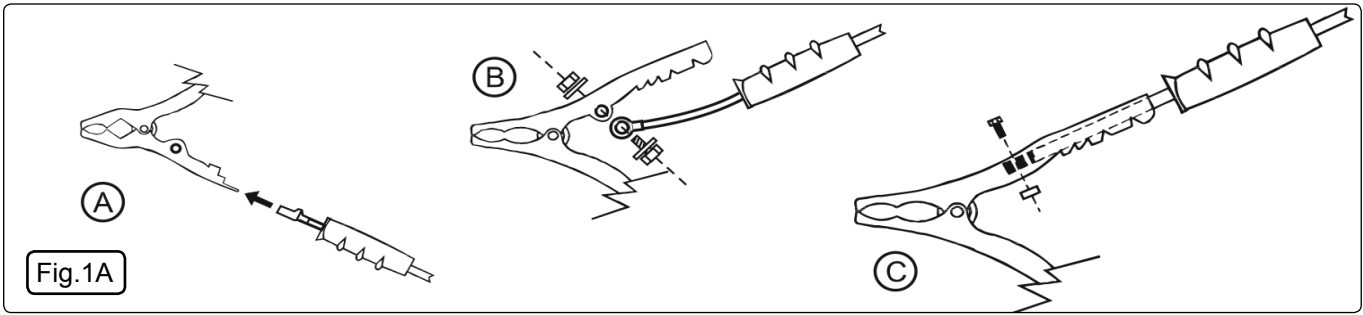

Fig.1A
- 3.3. The clamp with the red handle is attached to the movable cable, see fig1A.
- 3.4. The clamp with the black handle is attached to the fixed cable which comes directly out of the top of the battery charger, see fig1A.